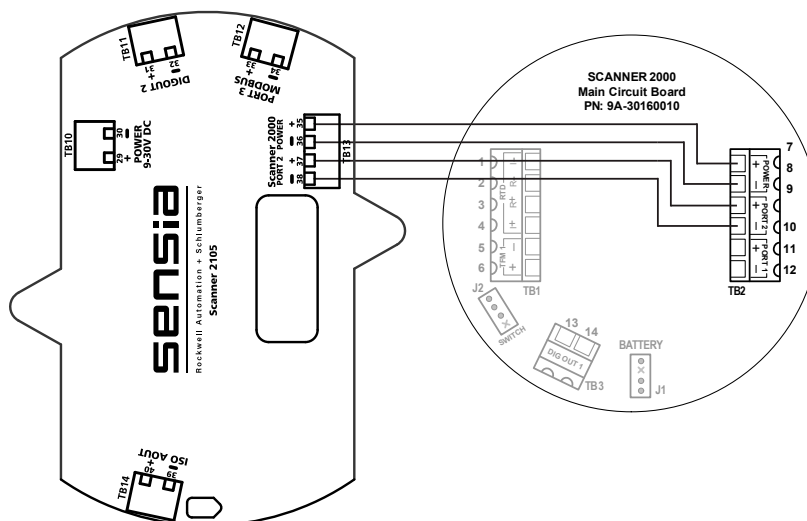

Figure 5.4 - Display board connections to backplate board
4. Remove connections from display board to backplate board (Figure 5.4, pg. 89).
16. Reconnect the wiring from the display board to the backplate board as shown in Figure 5.4, pg. 89.